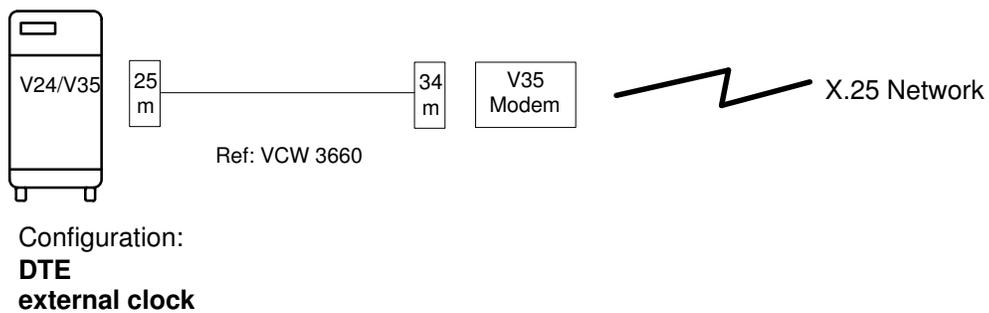

Figure 51. V24/V35 Connection to a Public Network (EIA Standard)
- Connection to a Public Network (EIA Standard), see figure 51.